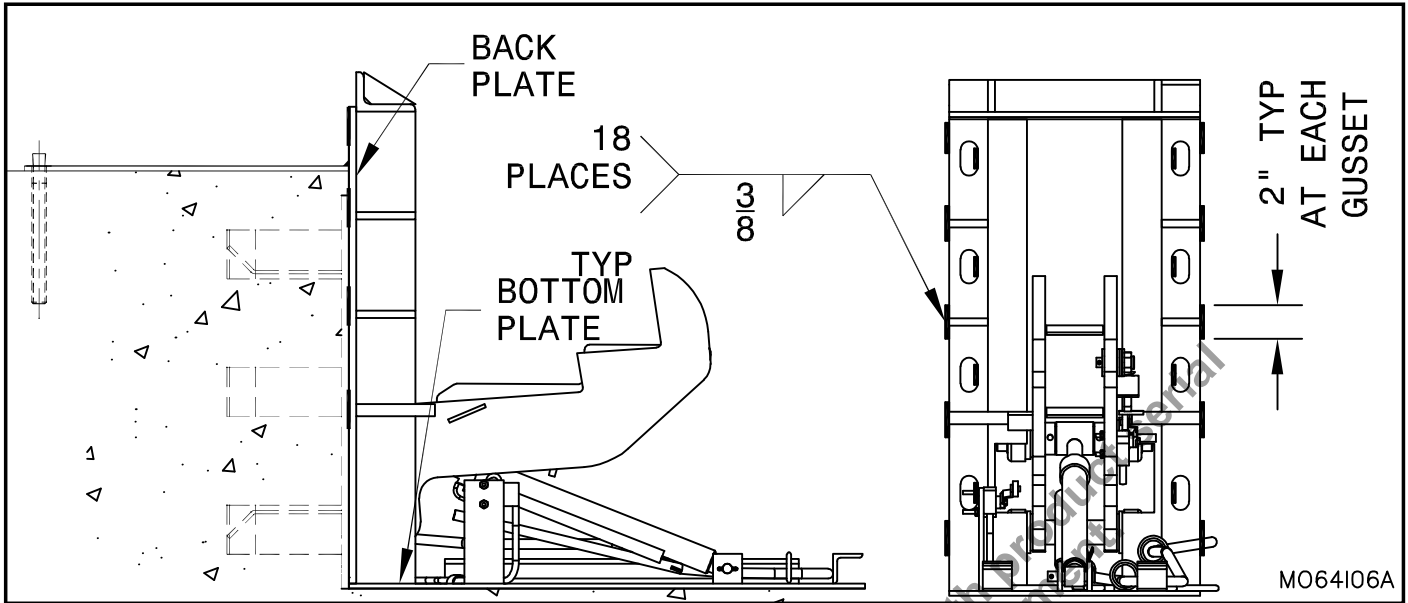

Figure 16: Weld Locations - Method 2
3. ___ Apply a 3/8" fillet weld x 2" long to the intersection of the cast in weld plate and the restraint back plate at each of the six gussets that meet the cast in weld plate on the two sides. Apply an additional 3/8" fillet weld x 2" long mid way between the lower gusset and the base plate. Also, weld the six slots in the back plate that meet the cast in weld plate. See "Figure 16: Weld Locations - Method 2" on page 20.